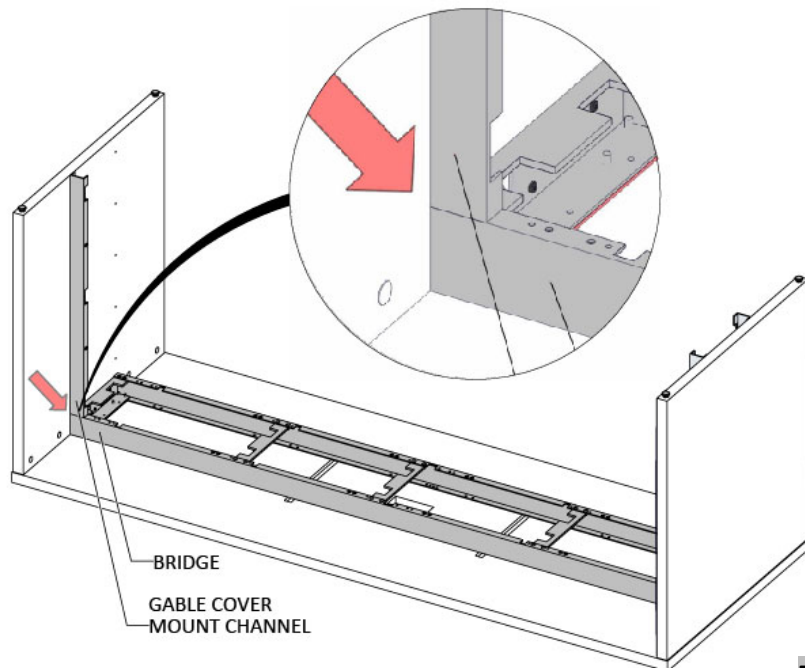

Figure 9
- 12.** Align and flush the gable cover mount channel to the side face of the bridge before tightening the screws, (Figure 9).